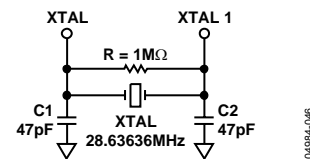

Figure 43. Crystal Circuit
Figure 43 shows an example reference clock circuit for the a ADV7181B. Special care must be taken when using a crystal circuit to generate the reference clock for the ADV7181B. Small variations in reference clock frequency can cause autodetection issues and impair the ADV7181B performance.
- Place a 1 MΩ shunt resistor across pins XTAL1 and XTAL2 as is shown in Figure 43.